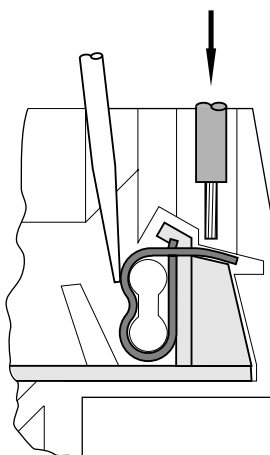

Figure 11
4. Push the blade down until the contact spring **(3)** rests on the stop (see Fig. 11).